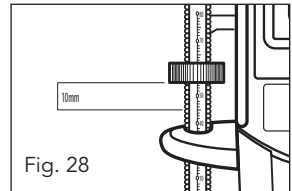

Fig. 28
3. Turn the second depth stop screw (26) up by the distance of the desired drilling depth ie. if the depth stop screw sits at 45mm on the scale and you wish to drill a hole with a depth of 10mm, increase the position of the depth stop screw to 55mm on the scale (Fig. 28) .